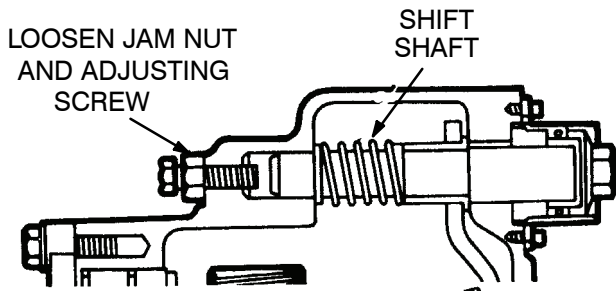

Figure 106.
- (19) Adjust the shift fork for the inter-axle differential lock according to the following procedure. The movement of the shift fork is controlled by the adjusting screw for the air-shift cylinder.
- (a) Loosen the jam nut on the adjusting screw. Loosen the adjusting screw so that the screw does not touch the shift shaft. Figure 106.